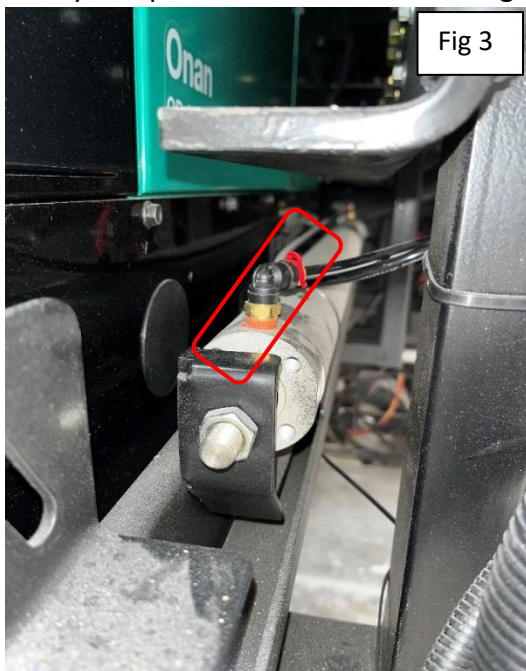

Fig 3
5. The cylinder can be on either side of the generator. (Figure 3)